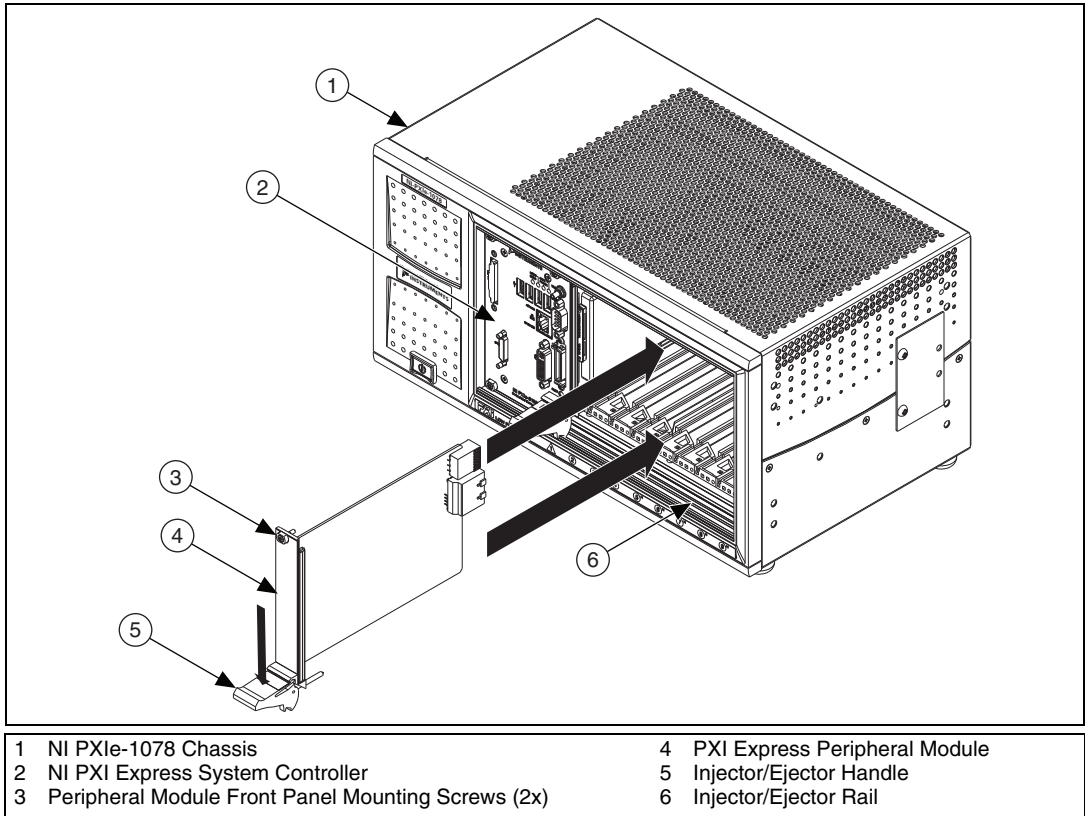

Figure 2-6. Installing PXI, PXI Express, or CompactPCI Peripheral Modules
4. Install a module into a chassis slot by first placing the module card PCB into the front of the card guides (top and bottom), as shown in Figure 2-6. Slide the module to the rear of the chassis, making sure that the injector/ejector handle is pushed down as shown in Figure 2-6.